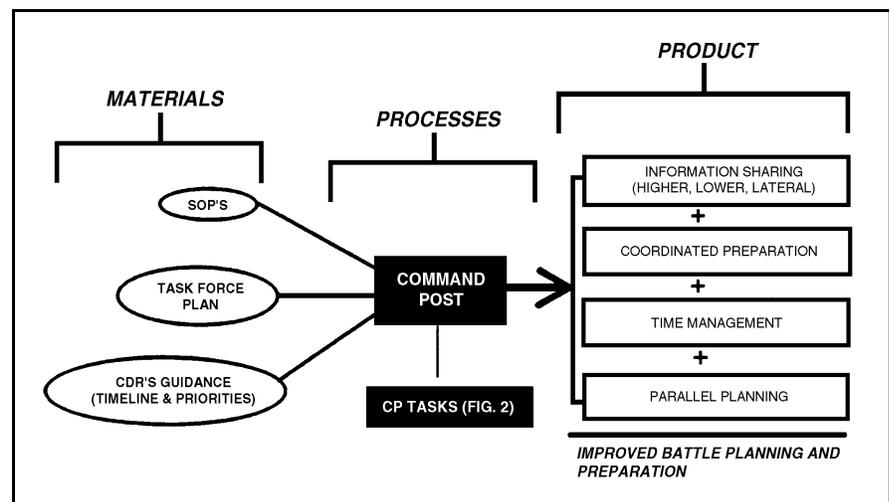

Figure 1
1. Purpose: To enable the company/team to effectively accomplish battle preparation by providing a centralized point for information gathering and dissemination, coordination, time management, and tracking of unit status (Figure 1).